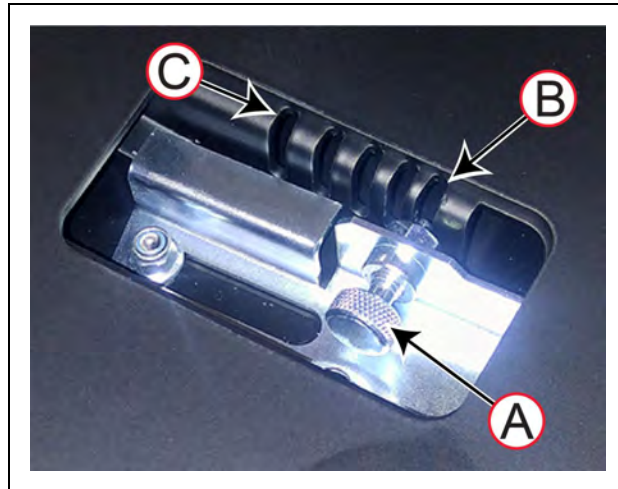

Figure 3-18 Adjusting the Height of the Docking Station Contacts
The height adjustment mechanism is on the underside of the docking station's floor plate, shown in Figure 3-18.
5. Pull out the pin (A) and slide it in the direction (C) to select a position slot (B) Adjust the position of the paddle as shown in Figure 3-18. The height changes by 4 mm (0.15 inch) for each notch.